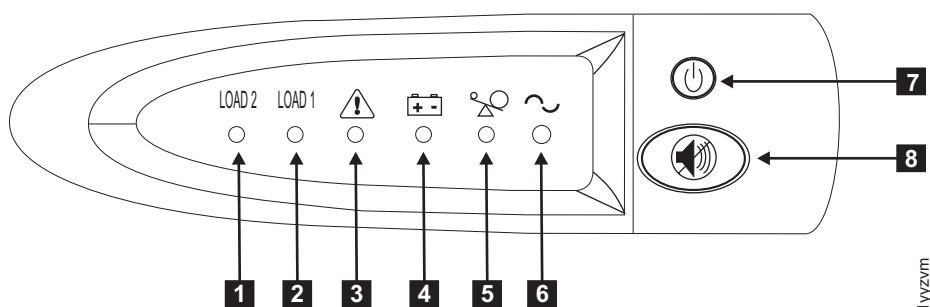

Figure 231. 2145 UPS-1U front-panel assembly
12. To turn on the 2145 UPS-1U, press and hold the on/off button (**7** in Figure 231). On some versions of the 2145 UPS-1U, you need a pointed device, such as a screwdriver, to press the on/off button. The 2145 UPS-1U undergoes a self-test, taking approximately five seconds, before the power-on indicator **6** and the load indicators (**1** and **2**) light up permanently to indicate that the 2145 UPS-1U is supplying power to the SAN Volume Controller . The 2145 UPS-1U begins to charge its battery while in normal mode.